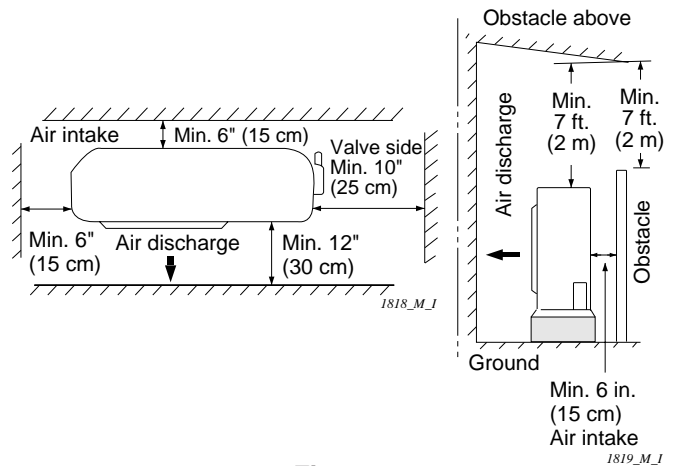

Fig. 2-3
- allow enough room around the unit for air intake/ exhaust and possible maintenance. (Fig. 2-3)